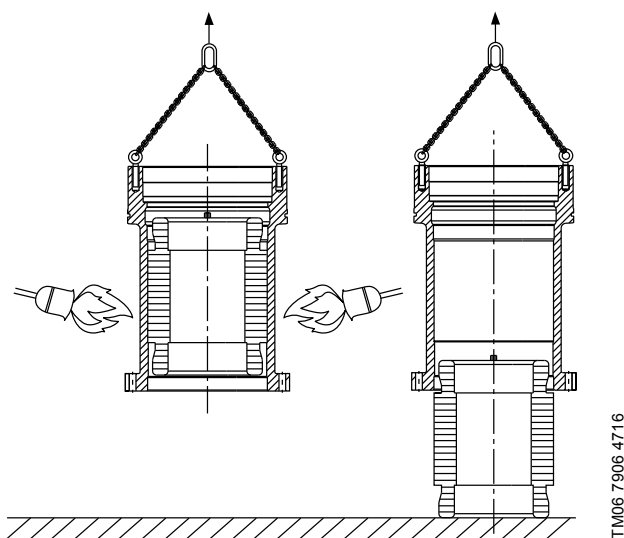

Fig. 18 Removing stator
2. Heat the stator housing (55) at the same time with 2 or 3 gas burners beginning from the bottom edge. See fig. 18.